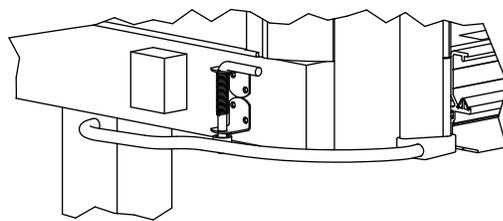

Figure 39
- 1) See **Figure 39 & 40**. Locate the lower cane bolt mounting bracket (3) so that the bend comes out over top of the front lock handle and the hole is in line with tube. The bracket can be mounted with it facing up or down. Secure bracket with #14 x 1 pan head phillips screws (4).
- 2) See **Figure 39 & 40**. Determine how the upper cane bolt mounting bracket (3) is to be mounted (up or down). Slide the cane bolt mounting bracket (3) onto the cane bolt (5), in the correct orientation, then slide the .845 O.D. X 3" spring (6) and insert the 1/4 x 1 1/2 spring pin (7) into the cane bolt to secure the spring.
- 3) Locate and secure the assembled cane bolt with #14 x 1 pan head phillips screws (4).